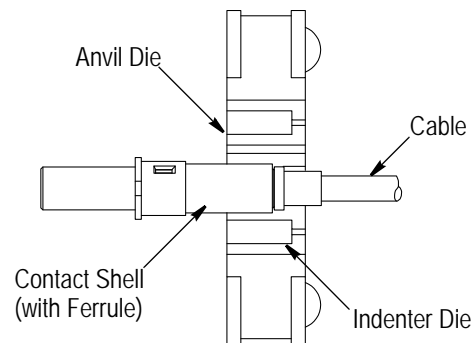

Figure 2
4. CRIMPING PROCEDURE (See Figure 2)